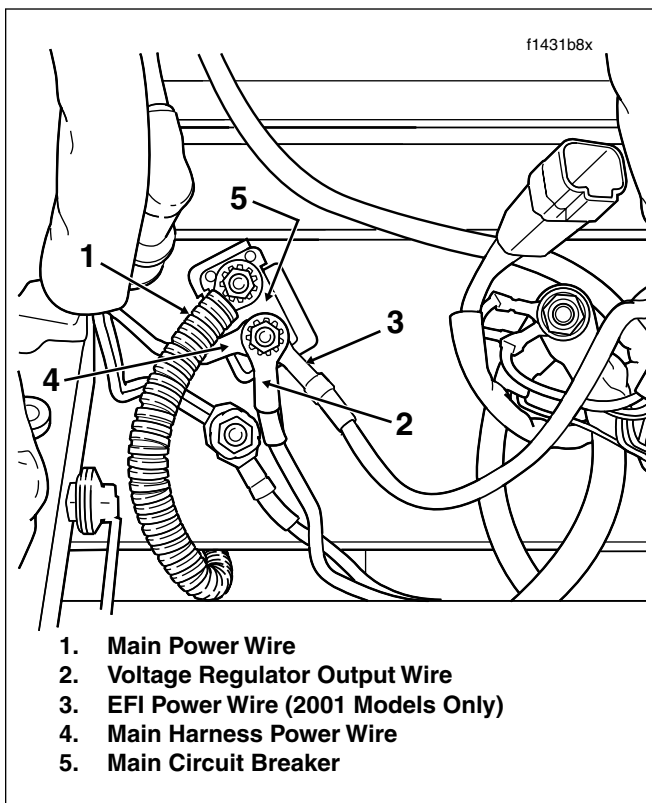

Figure 1. Upper Frame Crossmember (Under Seat)
5. Locate main circuit breaker on left side of upper frame crossmember. See Figure 1.
1. Install **new** 50 amp main circuit breaker into mounting clip oriented with the copper post topside. See Figure 1.